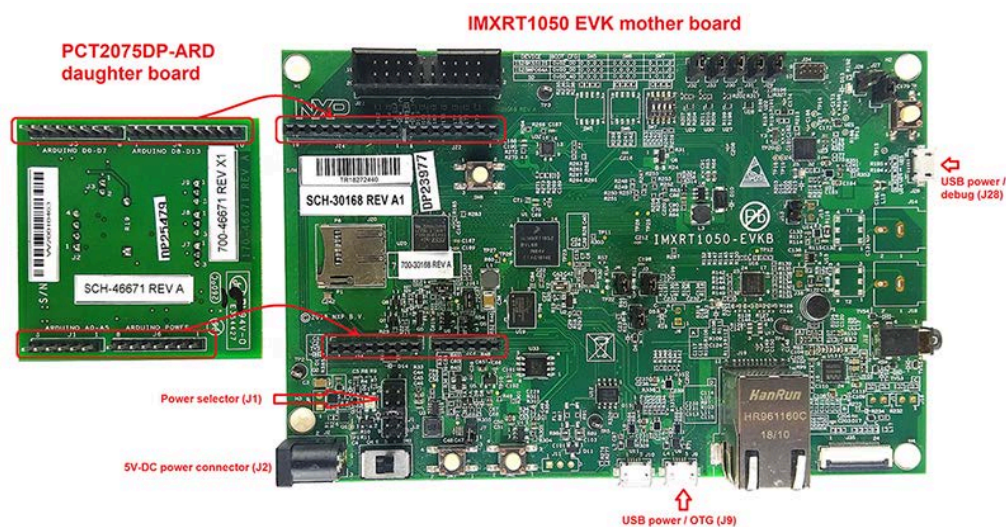

Figure 4. PCT2075DP-ARD daughterboard and IMXRT1050 EVK board, before starting
Figure 4 shows the required hardware for operation of the PCT2075DP-ARD daughterboard with MIMXRT1050-EVK.
The MIMXRT1050-EVK motherboard can be powered through three different connectors: using an external 5.0 V DC power supply, connected to J2 barrel power connector, directly from an USB port through J9 USB Micro-B connector (J9), or from the same USB port through J28 connector. J28 can be used as a debug connector, therefore using J28, through the same USB cable, the EVK can be powered and in the same time linked to PC for data exchange. The older USB ports (from PC) are not able to deliver the necessary current (500 mA), before establishing the communication, use an external power supply (connected to J2). From J1 (see Figure 4) the user can select the power configuration for the motherboard. For further details, see i.MX RT1050 Evaluation Kit.
2. Insert the PCT2075DP-ARD daughter card on the Arduino port of the EVK (see Figure 4)